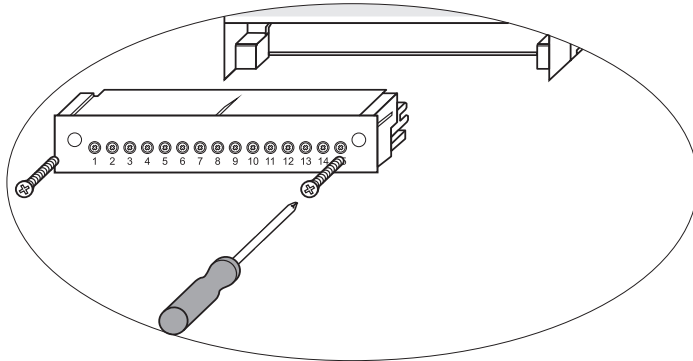

Fig. 12
- Lower and upper terminal strips: Unscrew left and right fixing screws and remove the terminal strip. **Fig. 12**